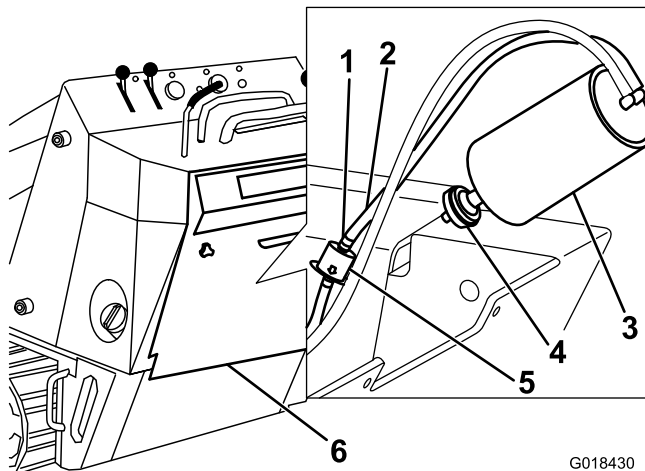

Figure 35
4. Remove and discard the carbon-canister air filter (Figure 35).
5. Install a new filter onto the carbon canister (Figure 35).
4. Move the spring-type hose clamps on both sides of the carbon-canister purge-line filter away from the filter (Figure 35).
5. Remove and discard the purge-line filter (Figure 35).
6. Install a new filter into the hose with the arrow on the filter pointing away from the carbon canister and secure it with the hose clamps (Figure 35).